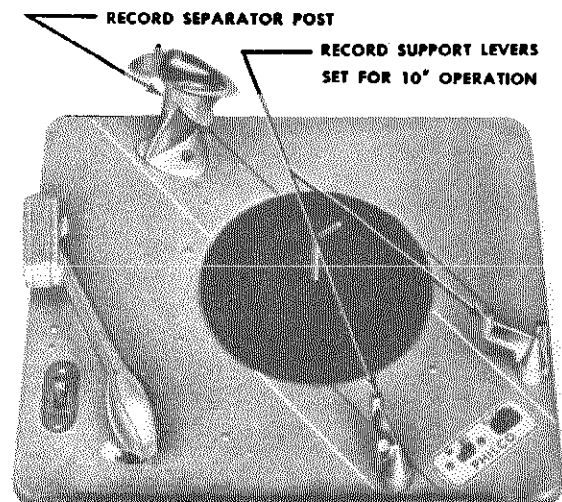

Figure 4. CHANGER SET FOR 10" AUTOMATIC OPERATION
6. Set the record support levers and record separator post in the 10" position, as shown in figure 4. Place a good 10" record over the spindle and onto the support levers and separator post. Set the manual-automatic lever to AUT, turn on the motor and operate the REJECT control. The record should drop smoothly and the tone arm should lower so that the needle strikes the record approximately $\frac{1}{8}$ " in from the outside edge.